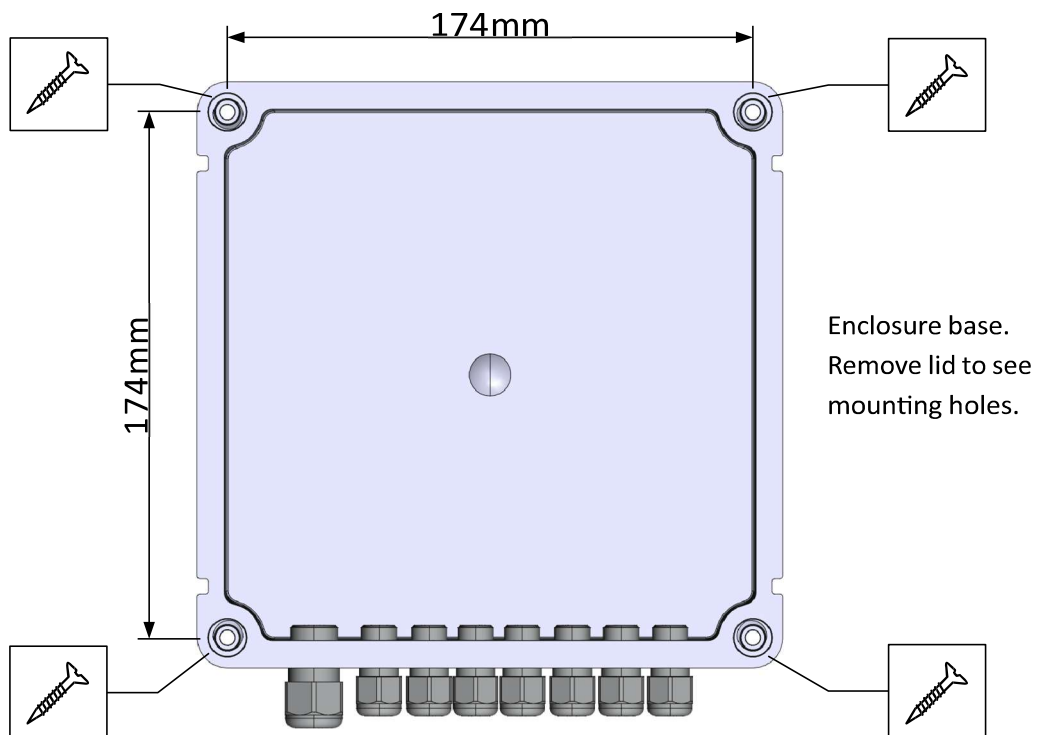

Figure 4: Enclosure base
- ⚠ Only use the mounting points shown in Figure 4. Do not drill holes in the enclosure or otherwise modify it as this would affect the IP65 rating and may allow water and/or moisture to enter the
2. Use the mounting points provided on the enclosure to mount in the position required. See Figure 4 for mounting points and dimensions.